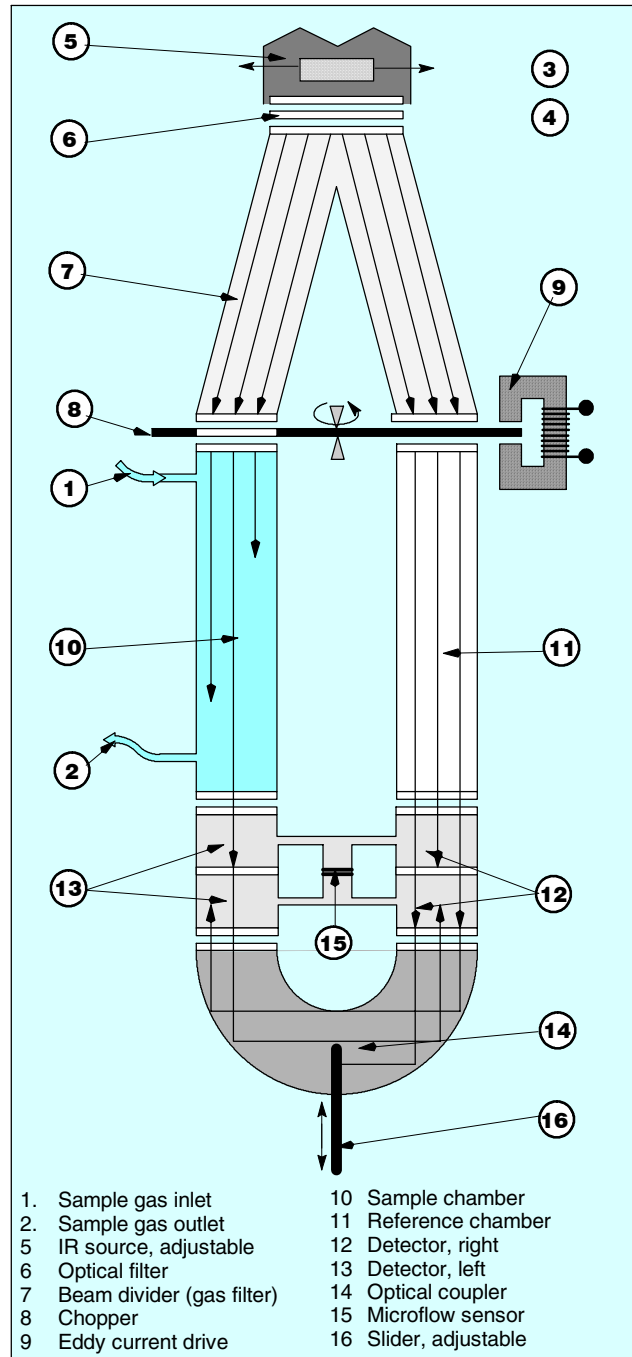

Fig. 3-3 Mode of operation
Fig. 3-3 shows the measuring principle. An IR source (5) which is heated to approx. 700 °C and which can be shifted to balance the system is divided by the beam divider (7) into two equal beams (sample and reference beams). The beam divider also acts as a filter cell.